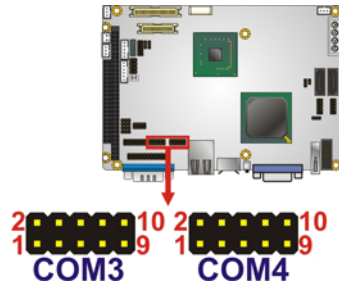

Figure 3-23: Serial Port Connector Location
- CN Location:** See Figure 3-23